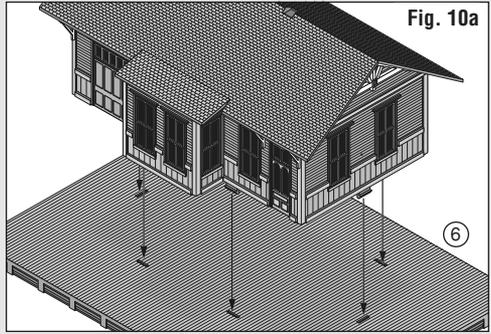

Fig. 10a
- Position Platform ⑥ with the stairs toward the back.
- Align Building tabs with slots on Platform and snap in place (Fig. 10a).